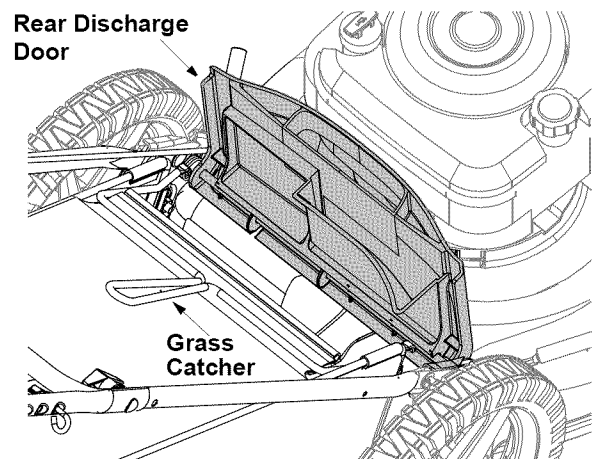

Figure 8
- Lift the rear discharge door and place the grass catcher on the pivot rod. Let go of discharge door so that it rests on the grass catcher. See Figure 8.
- Lift the rear discharge door on the mower as shown in Figure 8. Lift grass catcher up and out of the pivot rod. Release rear discharge door.